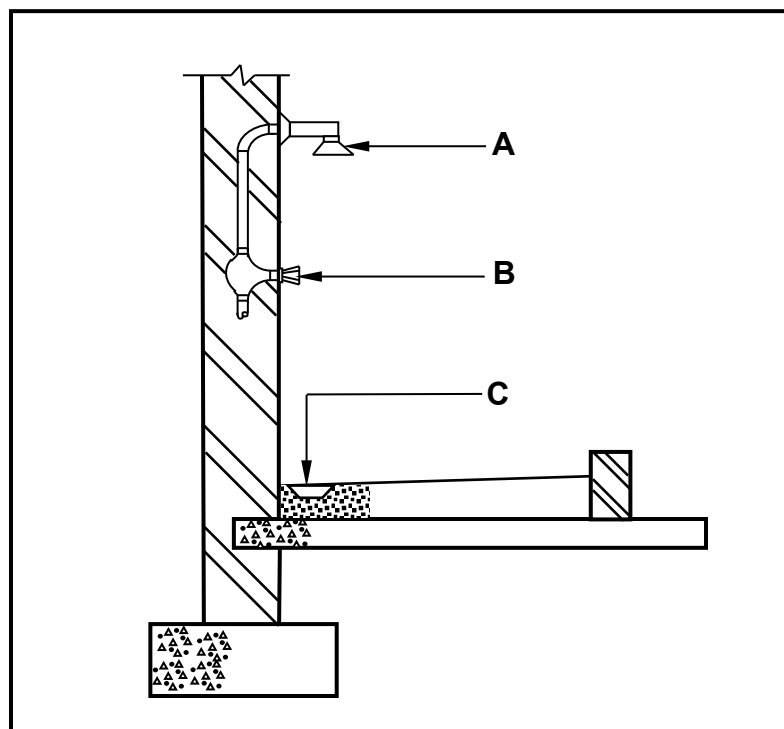

FIGURE 6.4
6.4 FIGURE 6.4 shows the installation of a shower.